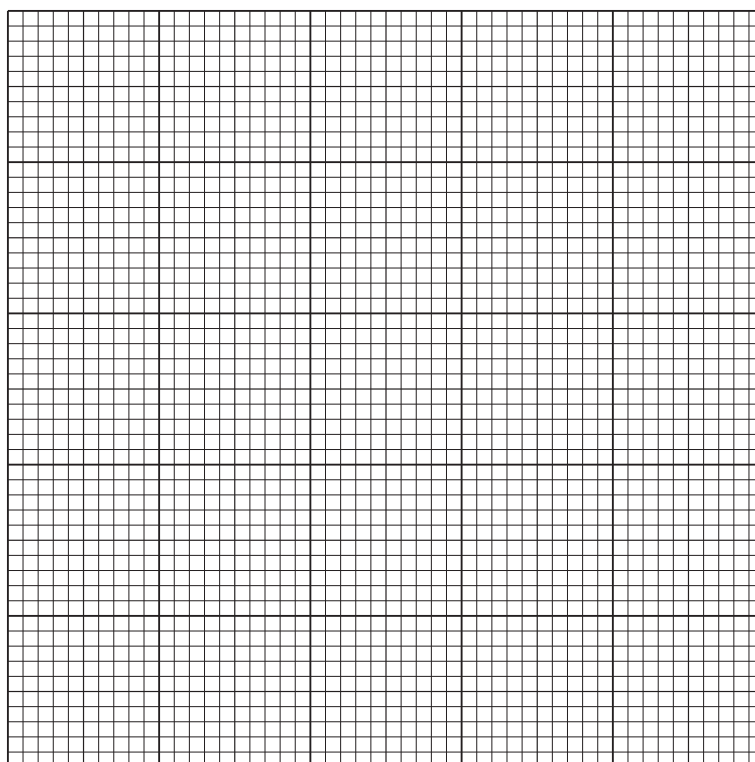

Fig. 1.3
- (i) Plot a graph of the data in Table 1.2 on the grid in Fig. 1.3.
- (ii) Use your graph in Fig. 1.3 to determine the rate of reaction when the temperature is 37.5 °C.